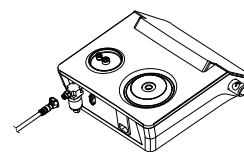

Figure 8
- 2.6.2. Plug the external air pipe connector into the air intake connector on the back of the main unit (as shown in Figure 8).